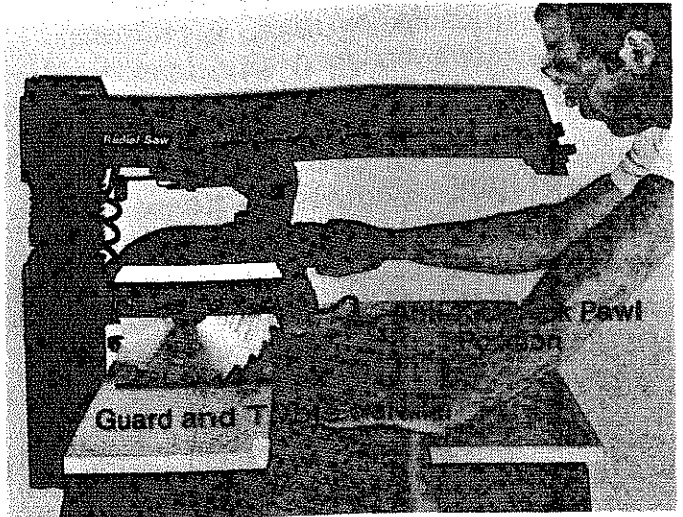

Fig. 90 Crosscut Blade Guard and Body Position
**WARNING:** To reduce the risk of contact with the upper half of the blade and keep the workpiece from jamming in the guard, set the blade guard in the horizontal position. Fig. 90.
**▲ WARNING:** The blade guard must be horizontal to provide protection from contact with the upper half of the blade and avoid the workpiece being jammed in the blade. Set the blade guard in the horizontal position. Fig. 90.